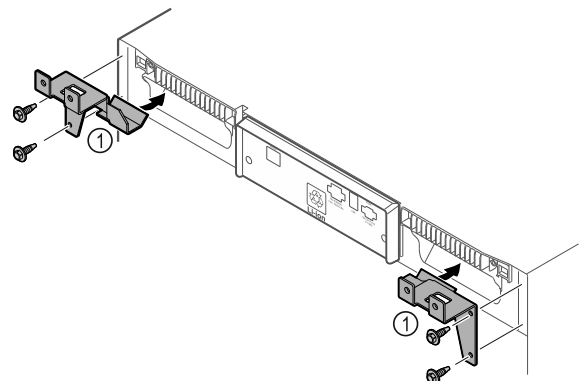

Fig. 69
- ▶ Assemble the retaining parts *Fig. 69 (1)* with the self-tapping screws on the appliance.